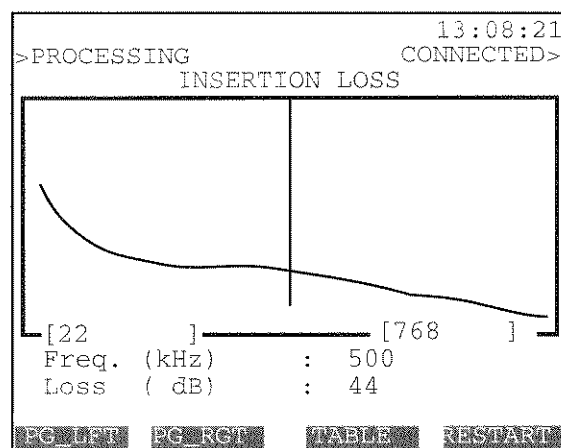

Figure 6-16 ADSL PSD Insertion Loss Result
8) The results show a Level vs. Frequency plot. Refer to Figure 6-16.